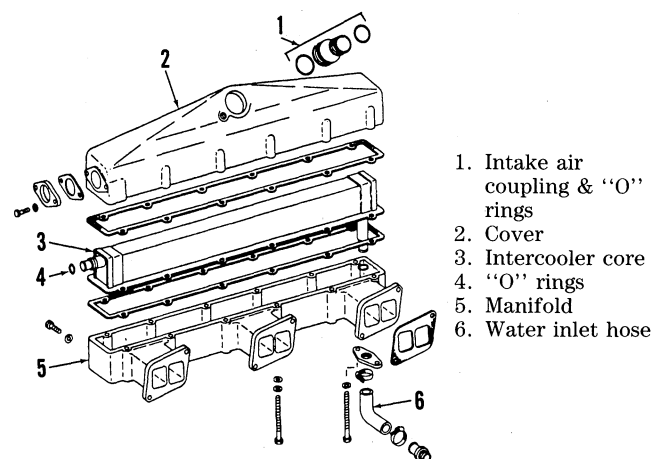

Fig. 70—Exploded view of intake manifold and intercooler used on 4650 and 4850 models.
62. The intake manifold on 4650 and 4850 tractors contains an intercooler (3—Fig. 70) to lower the temperature of the intake air. Coolant from the engine cooling system flows through the intercooler core and heat from the compressed (turbocharged) intake air is conducted into the coolant. The intercooler can lower the temperature of the intake air as much as 80°-90° F (27°-32° C), which makes the air more dense and permits more air to be delivered to the engine cylinders.